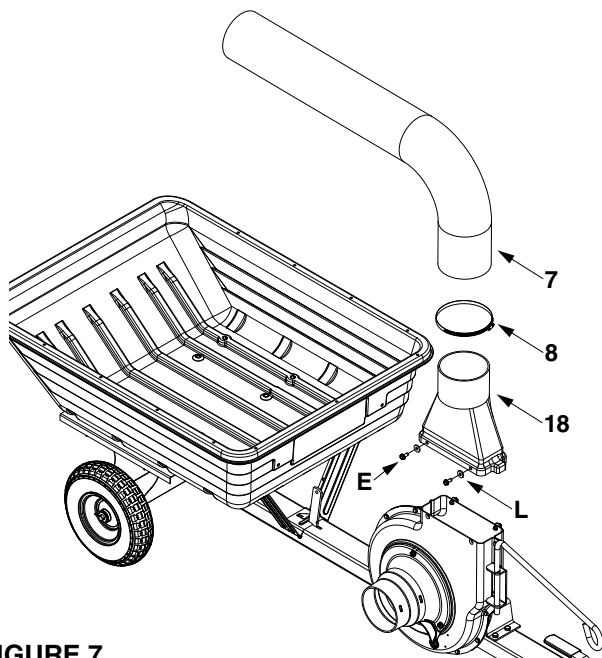

FIGURE 7
- Attach the transition snout (18) to the top of the engine housing using four 5/16" x 3/4" hex bolts (E) and nylon washers (L). Attach the short hose (7) to the transition snout using a hose clamp (8) See figure 7. Note: Engine not shown for clarity.